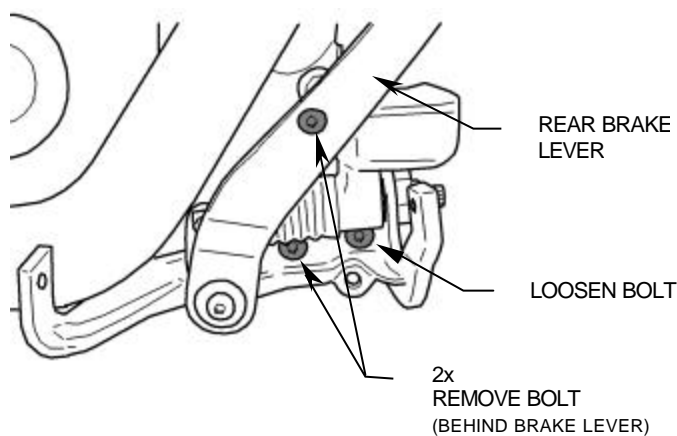

FIGURE 1
1. Remove stock exhaust system. On FLSTC, FLSTN, FLSTF, and FXSTS, remove the right floorboard. Next remove the two floorboard mounting bracket bolts leaving the third in place but loose and rotate mount down out of the way. (See Figure 1.) This will make installation of exhaust and heat shields possible.